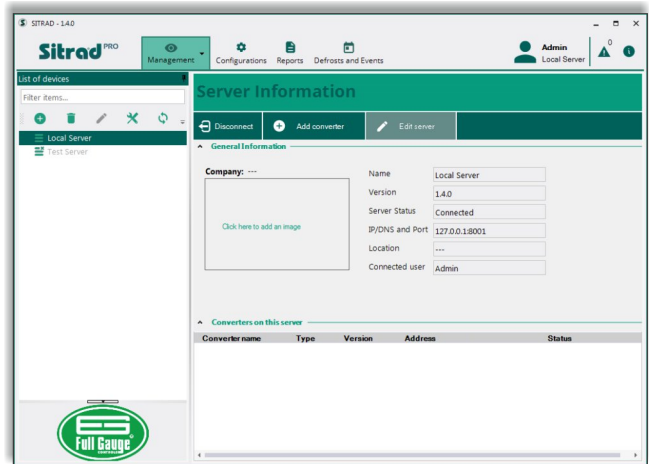

Figure 25
Step 1: Figure 25 shows the Sitrad™ Management screen. On the **Device List** tab on the left select the server where the converter will be installed. This server must be on the same network as the device. On the main **Server Information** tab, click the **Add Converter** button.